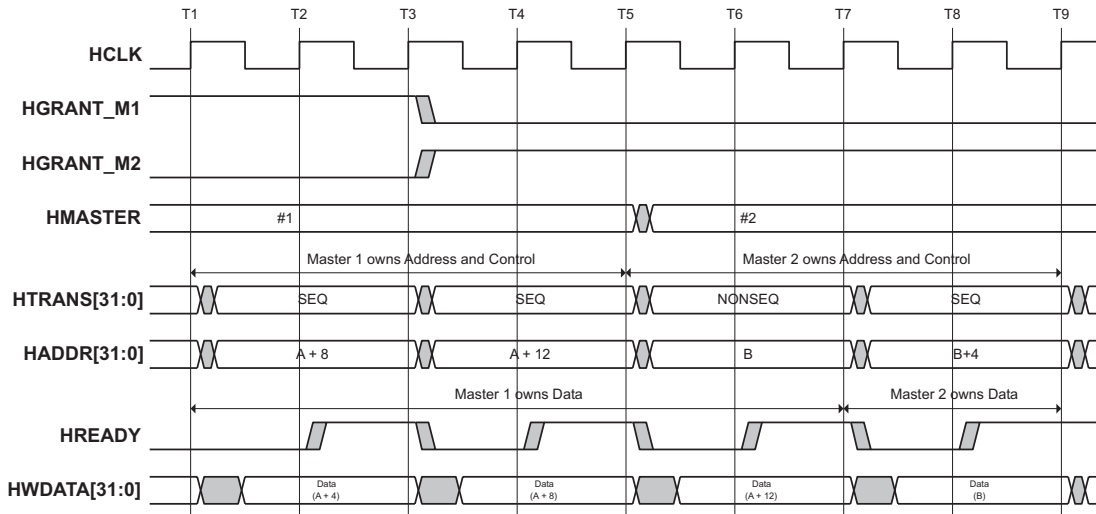

Figure 15: Data Bus Ownership
- Data bus ownership (Figure 15 on page 41)